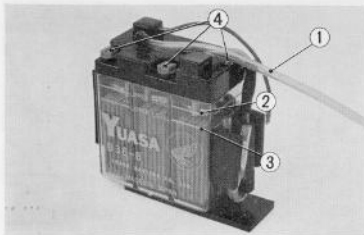

Fig. 5.37 Battery electrolyte level
- c. Always maintain the electrolyte level above the lower electrolyte level marking on the battery. When replenishing, add distilled water to raise the electrolyte level to the upper marking. (Fig. 5.37)